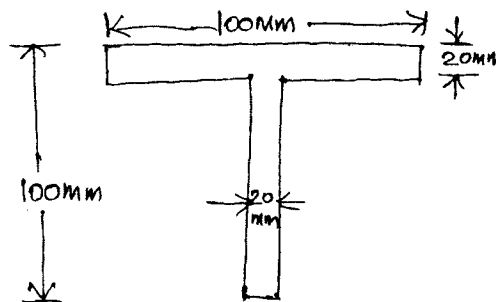

Fig. Q8(b)
- b. The shear force acting on a section of a beam, is 50 kN. The section of the beam is T section as shown in Fig. Q8(b). The moment of inertia of the section is about its horizontal axis is $314.221 \times 10^4 \text{ mm}^4$. Calculate the shear stress at neutral axis, and junction of the web and flange and in the flange. (10 Marks)